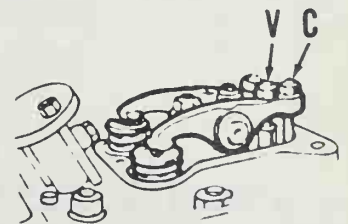

Fig. L2-7 - Adjust exhaust valve tappet gap by turning adjustment screw (V). Adjust compression release by turning adjustment screw (C). Refer to text.
The compression release is adjusted by turning outer adjusting screw (C-Fig. L2-7) in exhaust valve rocker arm. Adjust compression release gap AFTER adjusting exhaust valve tappet gap. With compression release lever in off position, clearance between adjusting screw and shaft should be 0.9-1.1 mm.
Valve tappet gap may be adjusted after removing rocker arm cover. Valve tappet gap should be 0.15 mm for both valves with engine cold. Note that there are two adjusting screws (Fig. L2-7) in exhaust rocker arm. Adjusting screw (V) nearer rocker arm shaft is used to